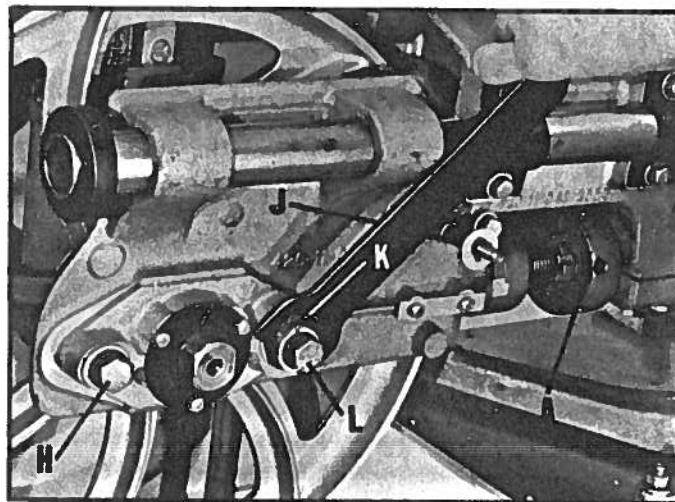

Fig. 22
7. If an adjustment is necessary, release blade tension by turning blade tension nut (A) counterclockwise. Loosen screw (H) Fig. 22. With special wrench (J), hold adjusting nut (K) to prevent it from turning and loosen screw (L). Mark the original position of the adjusting nut (K) to the casting. Then turn adjusting nut (K) clockwise to move blade "out" or counterclockwise to move blade "in" using wrench (J). NOTE: The tracking adjustment requires that the adjusting nut (K) be turned only slightly. Tighten screw (H) Fig. 22, and while holding adjusting nut (K) with the wrench (J), to prevent the nut (K) from turning, tighten screw (L).